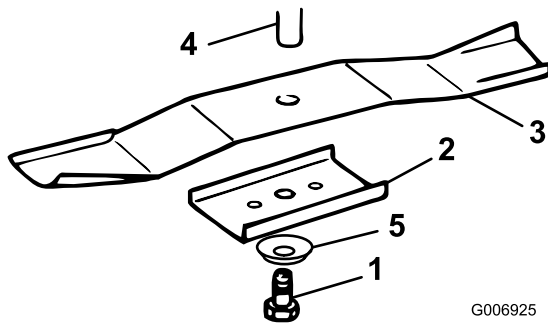

Figure 46
- Remove the bolt (5/8 inch wrench), curved washer, retainer, and blade (Figure 46). Use a block of wood as a wedge between the blade and the cutter deck to lock the blade when you are removing the bolt.
- Install each blade, blade retainer, curved washer (cupped side toward blade), and the blade bolt (Figure 46).